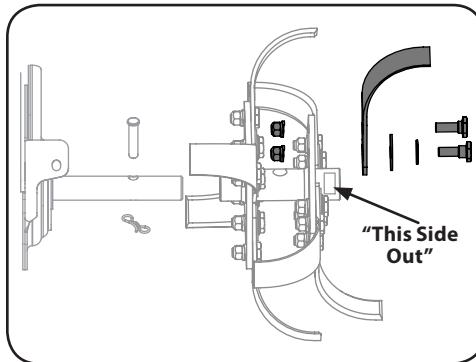

Figure 5-8
1. Remove the top hardware from the articulating tine. This consists of a shoulder screw on the outer side of the unit, and a lock nut and lock washer on the inner side of the unit. See Figure 5-8
2. Remove the lower hardware from the lower hole of the articulating tine. This consists of a shoulder screw, belleville washer and larger flat washer on the outer side of the unit, and a lock nut and lock washer on the inner side of the unit. See Figure 5-8